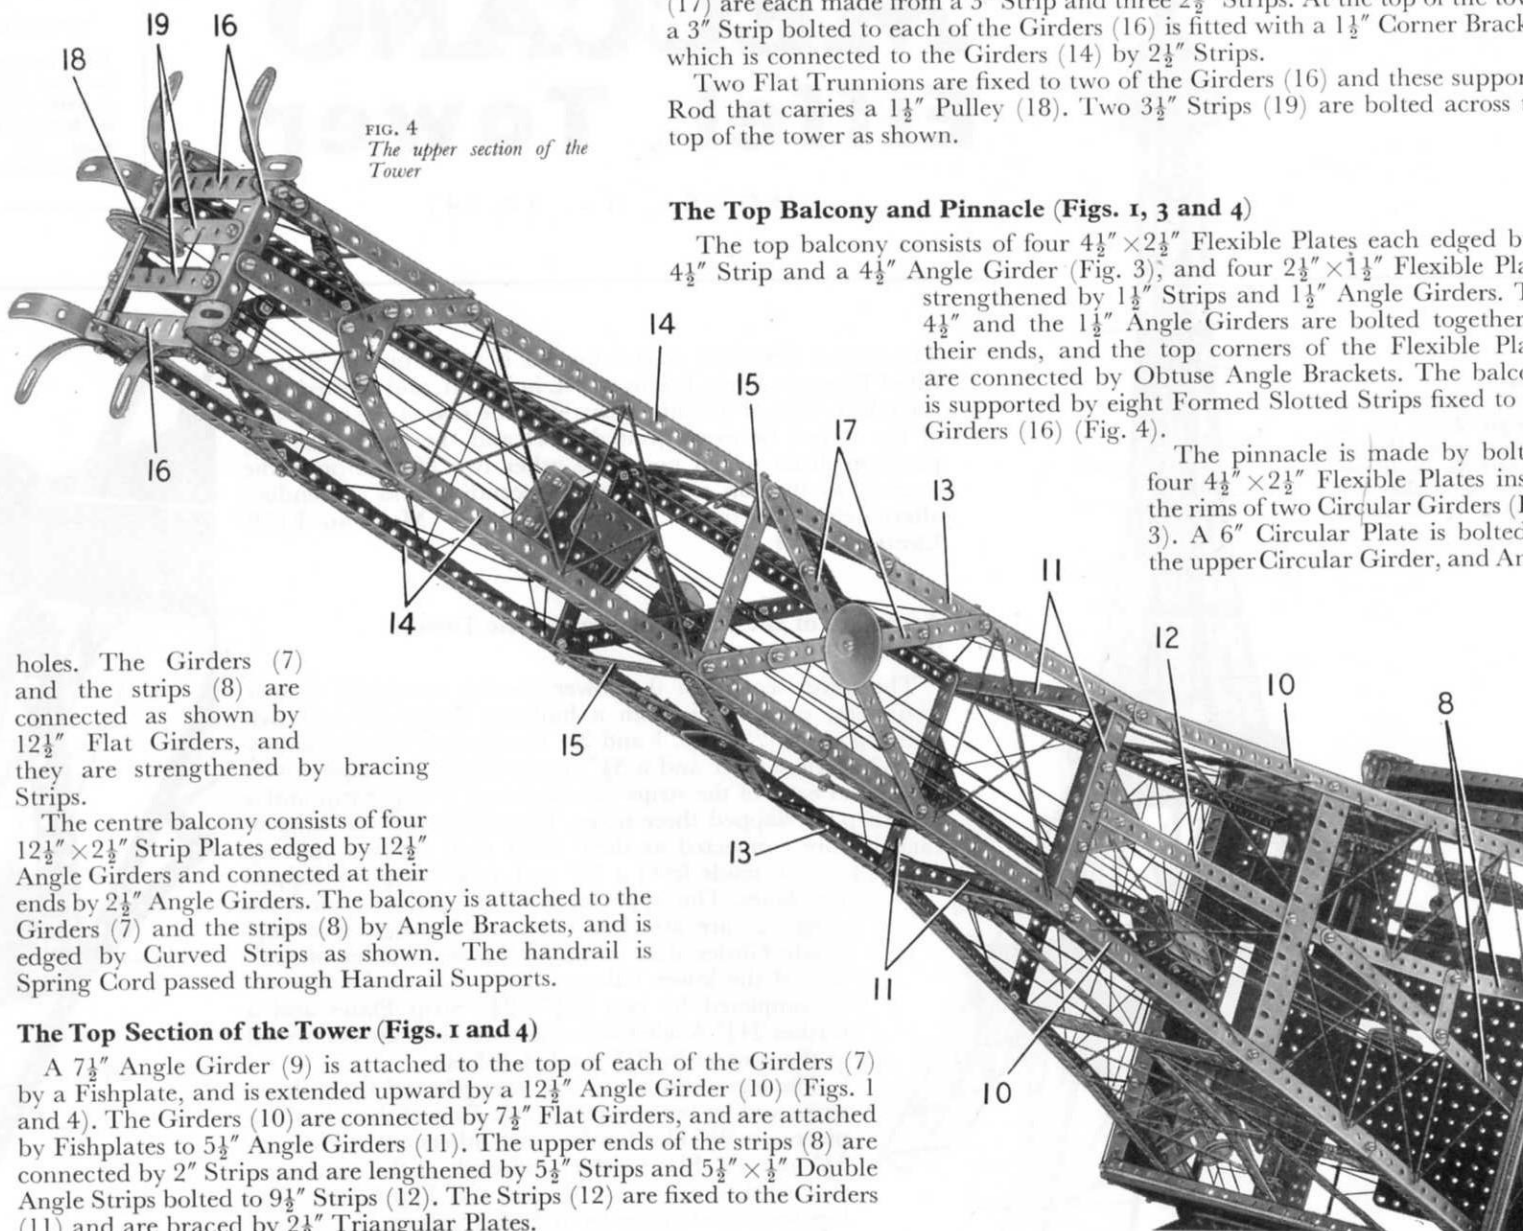
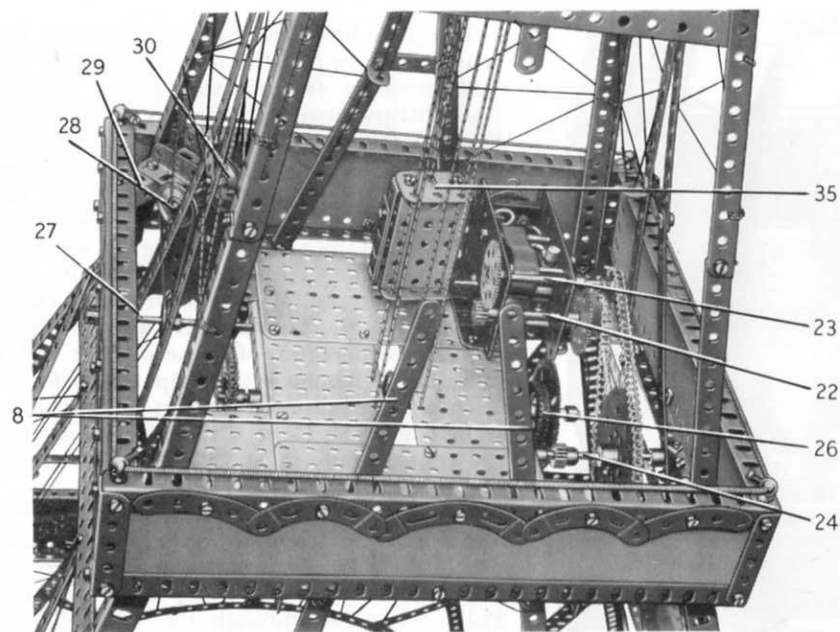
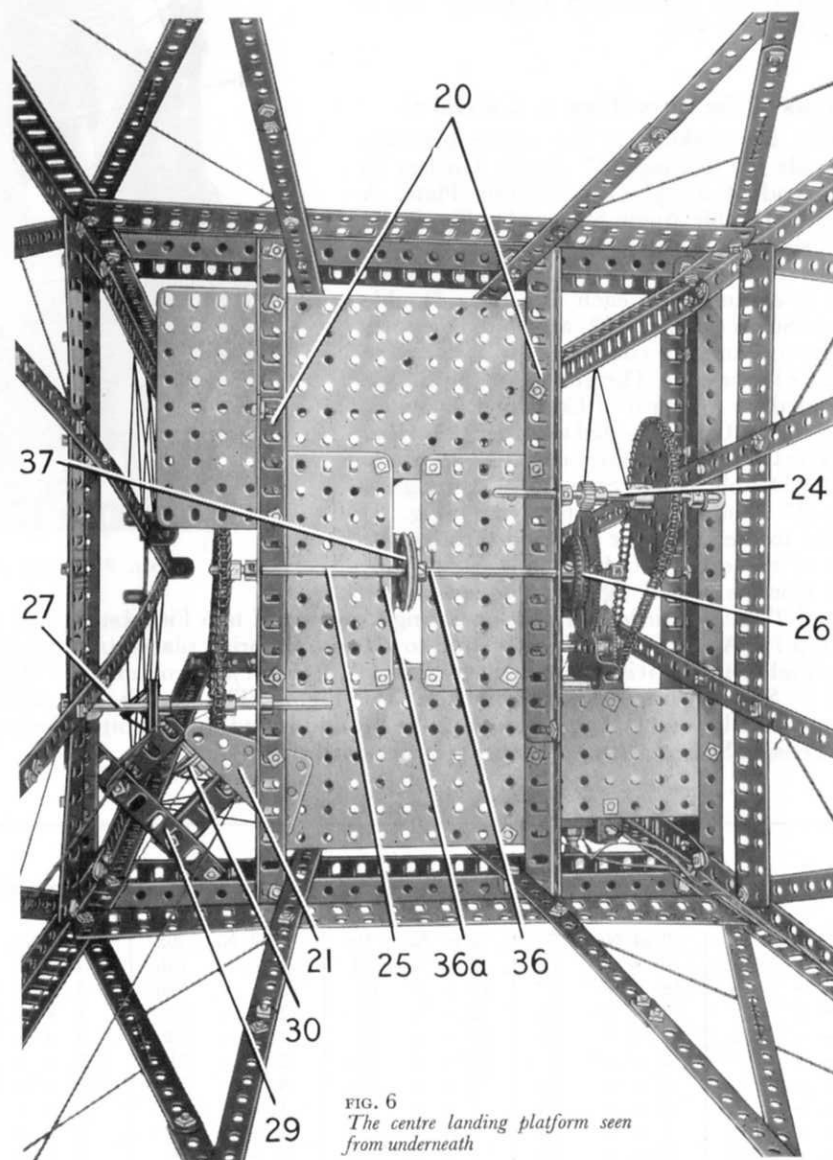

FIG. 4
FIG. 5
FIG. 6
The top balcony consists of four  $4\frac{1}{2}$ "  $\times$   $2\frac{1}{2}$ " Flexible Plates each edged by a  $4\frac{1}{2}$ " Strip and a  $4\frac{1}{2}$ " Angle Girder (Fig. 3); and four  $2\frac{1}{2}$ "  $\times$   $1\frac{1}{2}$ " Flexible Plates strengthened by  $1\frac{1}{2}$ " Strips and  $1\frac{1}{2}$ " Angle Girders. The  $4\frac{1}{2}$ " and the  $1\frac{1}{2}$ " Angle Girders are bolted together at their ends, and the top corners of the Flexible Plates are connected by Obtuse Angle Brackets. The balcony is supported by eight Formed Slotted Strips fixed to the Girders (16) (Fig. 4).
#### **The Centre Landing Platform and Operating Mechanism (Figs. 5, 6 and 7)**
Two built-up girders (20) (Fig. 6) are bolted underneath the centre balcony and to them are bolted Flat Plates as shown in Figs. 5 and 6. These Plates comprise two 5½" × 3½" Flat Plates and four 4½" × 2½" Flat Plates. A 2½" × 1½" Triangular Flexible Plate (21) is arranged as shown at one corner of the platform.
An E15R Electric Motor is bolted to the platform and a 7/16" diameter Pinion on its armature shaft drives a 60-tooth Gear on a 2½" Rod (22) (Fig. 5). A ½" Pinion on this Rod engages a 57-tooth Gear on a 3½" Rod (23), which carries also a ¾" Sprocket. This Sprocket is connected by Chain to a 3" Sprocket on a Rod (24) mounted in one of the girders (20) and in an Angle Bracket bolted underneath the balcony. A ½" Pinion on Rod (24) drives a 2½" Gear that is loosely mounted on a 6½" Rod (25). A Compression Spring is placed on this Rod between the Gear and a Collar, and it forces the Gear against a Motor Tyre (26) on a 1" Pulley fixed on the Rod. This arrangement forms a
A 1½" Sprocket on Rod (25) is connected by Chain to a ¾" Sprocket on a 5" Rod (27) (Fig. 6). This Rod is mounted in one of the girders (20) and in an Angle Bracket bolted underneath the balcony. A Driving Band is passed round
a 1" Pulley on Rod (27) and round a similar Pulley on a 2½" Rod (28) (Fig. 5). Rod (28) is supported in two 2" Angle Girders bolted to a built-up girder (29). The girder (29) consists of a 3" Angle Girder and a 1½" Angle Girder bolted together. A 1" Pulley (30) is fixed on Rod (28).
The two lifts that operate between the centre platform and the top of the tower are each made by bolting two 2½"×½" Double Angle Strips between the flanges of a 2½"×1½" Flanged Plate. A Girder Bracket is fixed to one Double Angle Strip, and a 1½" Flat Girder (35) (Fig. 5) is bolted to each flange of the Flanged Plate. The guide Cord for the lifts is tied to one of the Strips (19) (Fig. 4), is passed through the Flat Girders (35) of one lift, and through the second stage platform as indicated at (36) (Fig. 6). The Cord is passed through the Flat Girders (35) of the second lift and is taken through holes in the Strips (19) before it is again passed through the Flat Girders of the second lift. The Cord is then taken through the centre platform at (36a) (Fig. 6) and is tied to one of the Strips (19).
The operating Cord for these lifts is tied at one end to a Tension Spring placed inside one of the lifts. The Cord is passed through the top 1½" Flat Girder of this lift, round the Pulley (18) and through the top 1½" Flat Girder of the second lift, where it is tied to another Tension Spring. A length of Cord fastened to the lower end of this Spring is passed through the bottom 1½" Flat Girder, is taken round a 1½" Pulley (37) (Fig. 6) on Rod (25), through the bottom of the second lift and is tied to the lower end of the Spring in this lift.